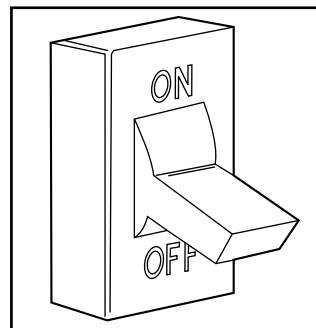

Fig. 19 - Turn Off Electrical Supply
1. Turn off electrical supply to the furnace. See Fig. 19.